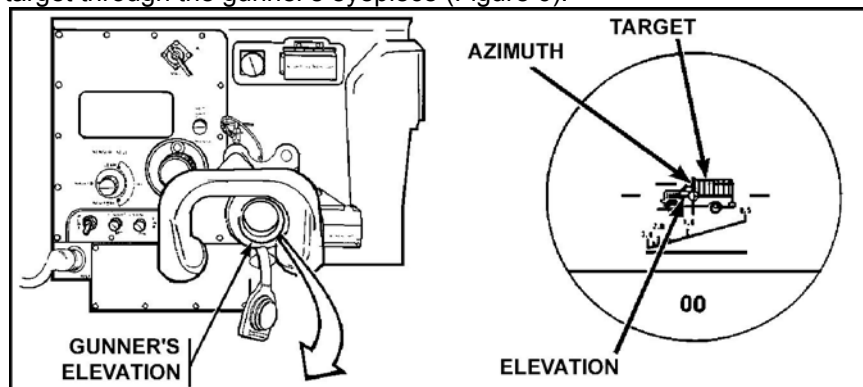

Figure 6. Eyepiece.
17. Select the target through the gunner's eyepiece (Figure 6).
18. Align the reticle on the target (Figure 6).